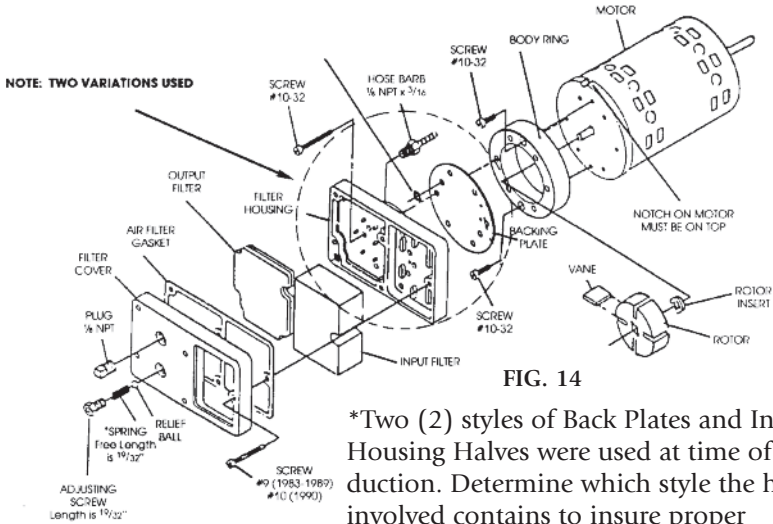

FIG. 14
E. Assemble backing plate, filter housing inner half and "O" ring to compressor/body ring. Use FIG. 14 as a guide. The smooth, polished side of back plate must face forward (toward motor/compressor). Place "O" ring in recessed cavity in filter housing. Secure the 6 screws. Tighten securely and check motor/fan rotation